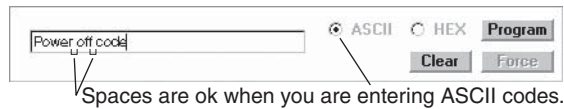
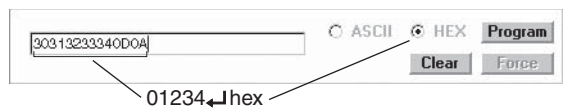

Figure 4-9 — Code entry (ASCII code)
Figure 4-10 — Code entry (hex code)
- c. Enter the desired code in the code window (figure 4-9).
NOTE Codes that are intended to be hex codes must be in pairs (such as 03 or DE). Use a leading 0 if necessary. Letters must be uppercase. Spaces between bytes are acceptable in ASCII codes (figure 4-9), but are not allowed in hex codes (figure 4-10).